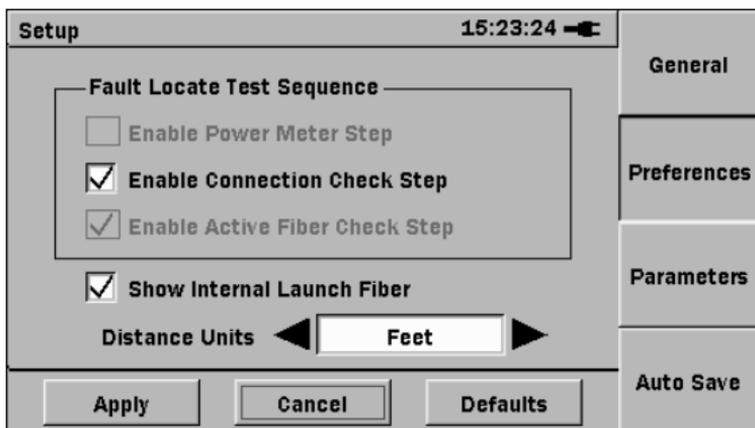

Figure 4-4: Preferences Setup screen
- When the self-test is complete, the unit launches the Fault Locate application. The next screen displayed depends on the Power Meter Step and Connection Check Step settings made on the Preferences Setup screen (see Figure 4-4 on page 4-5).
2. Highlight **Setup** and then press the **Set key**. The Preferences Setup screen appears (see Figure 4-4 on page 4-5).
The Power Meter Step screen appears when you enter the Fault Locate test application, providing the unit in use has the optional (factory installed) Power Meter and that **Enable Power Meter Step** is selected on the Preferences Setup screen (see Figure 4-4 on page 4-5).